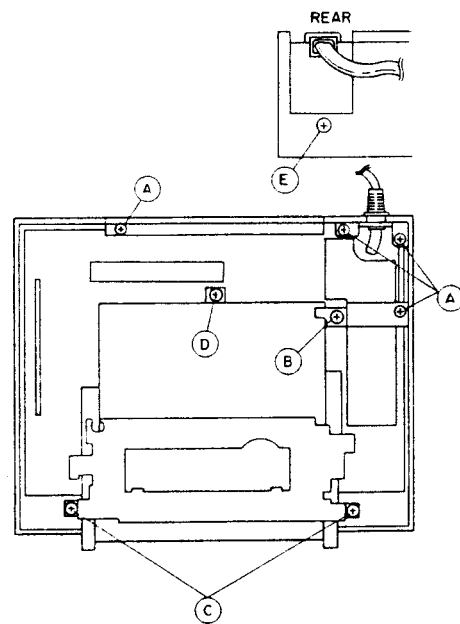

Fig. 1-2-1
2. Take out 4 screws (A), 1 screws (B) 2 screws (C); 1 screw (D) and 1 screw (E) as shown in Fig. 1-2-1.